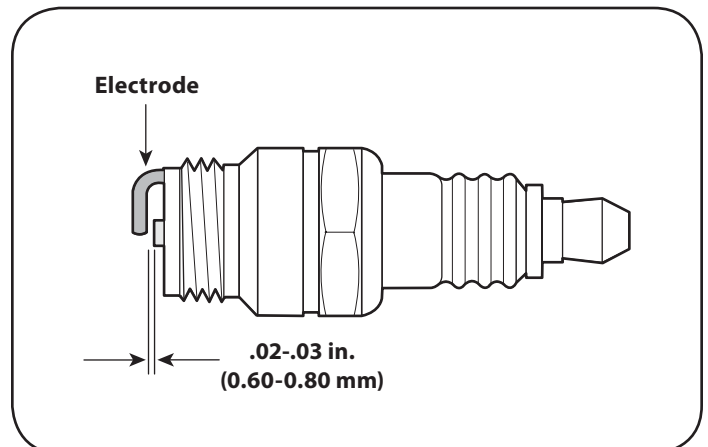

Figure 24
- Measure the plug gap with a feeler gauge. Correct as necessary by bending side electrode. See Figure 24. The gap should be set to .02-.03 inches (0.60-0.80 mm).